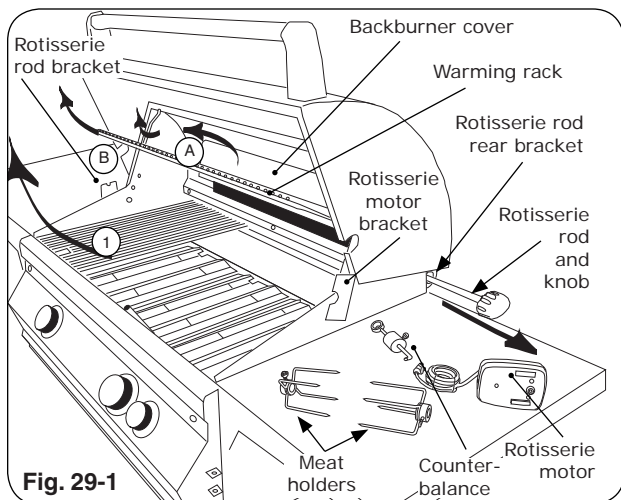
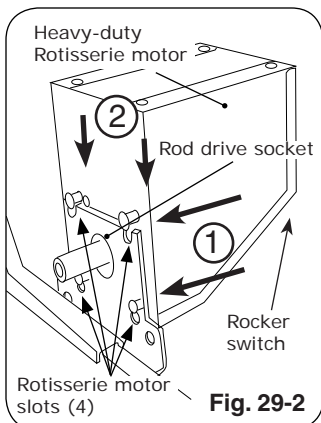
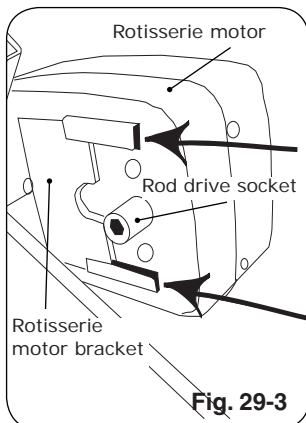

Fig. 29-1
Fig. 29-2
Fig. 29-3
2. Slide rotisserie motor fully onto motor bracket (right side, Fig. 29-1, Fig. 29-2 and Fig. 29-3).
3. Remove rotisserie rod from rear bracket (Fig. 29-1) and attach knob if necessary.